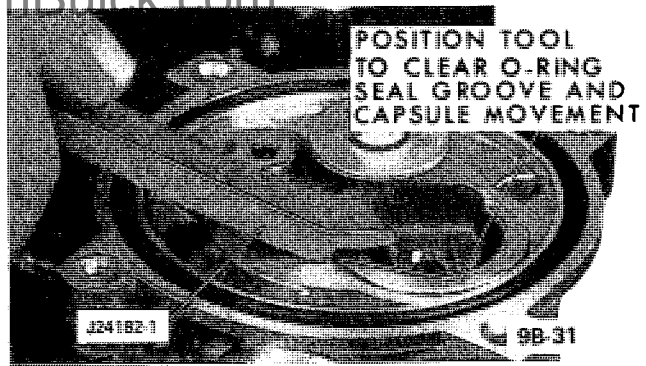

Figure 9B-21 Removing POA Valve Capsule with Removal Tool
6. Loosen the TX valve and POA valve capsule retaining screw and washer assemblies and partially remove one of the screw and washer assembly 3 turns. Remove the other screw and washer assembly entirely. See Figure 9B-21.
7. Insert the POA valve capsule removal tool J24182-1 into the valve baffle of the POA valve, Figure 9B-21, so that the step edge of the tool clears the edge of the POA valve capsule.